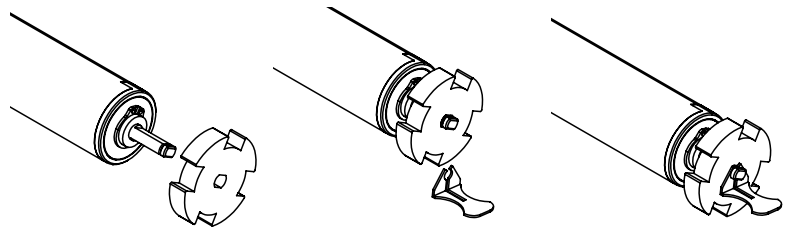

Figure 9. Slide the Driver on
Step 5. Slide the driver onto the end of the motor shaft. Then snap the drive retainer onto the motor shaft as shown in **Figure 9**.